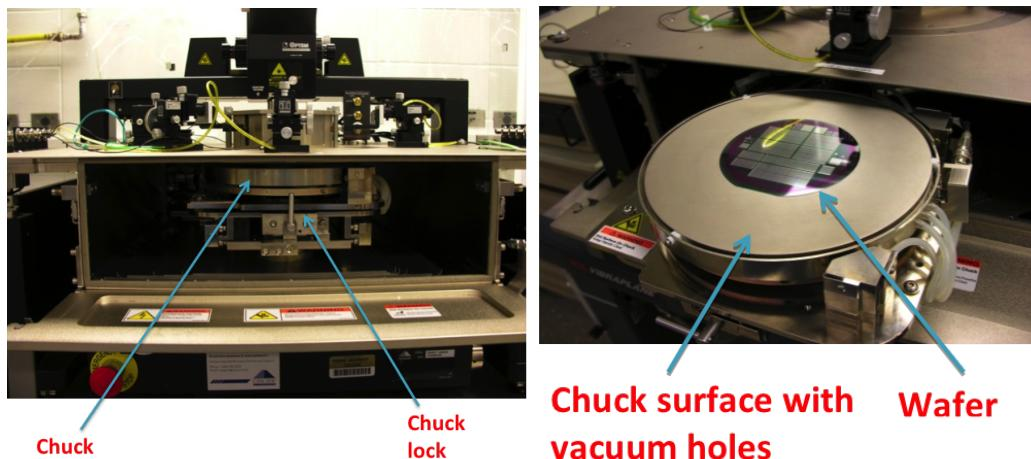

Figure 6: Chuck and loading surface.
- (b) Next, open the probe station micro-chamber door. The chuck and chuck interlock should be visible as shown in Figure 6. Unlatch the chuck interlock and pull out the chuck. Pull the chuck all the way back until you feel a click. The chuck should now be held in place and will not go back after you let go of the latch.